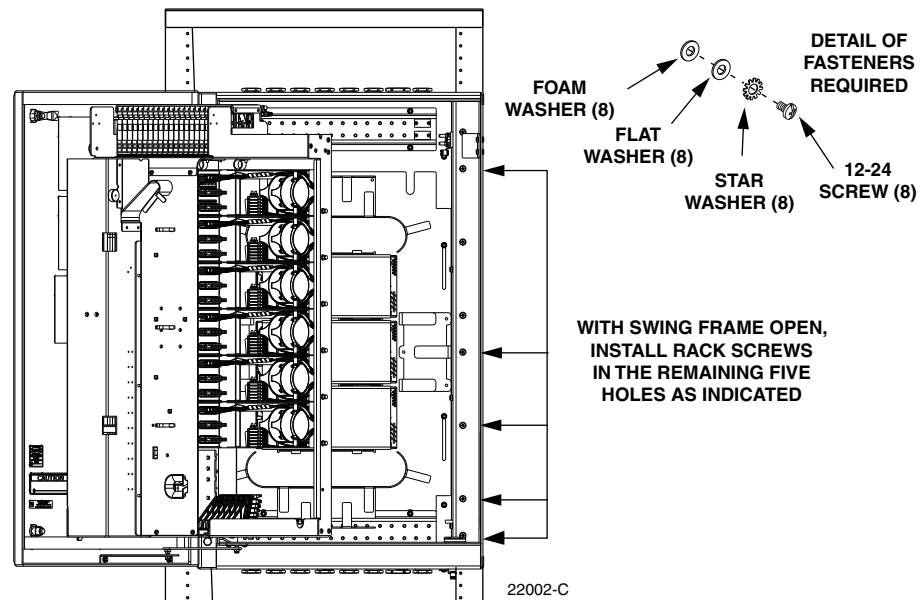

Figure 9. Right Side Mounting Holes Accessible with Swing Frame Open
17. Open the cabinet swing frame and install the remaining five right side rack screws as shown in Figure 9.